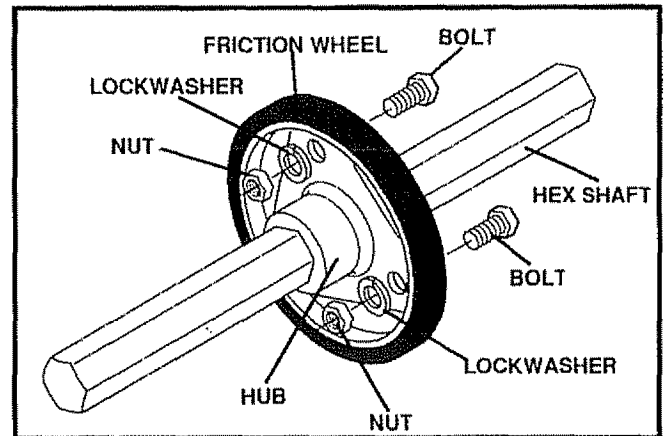

FIG. 35
- Remove the three (3) fasteners securing the friction wheel to the hub (See Fig. 35), and set fasteners aside.